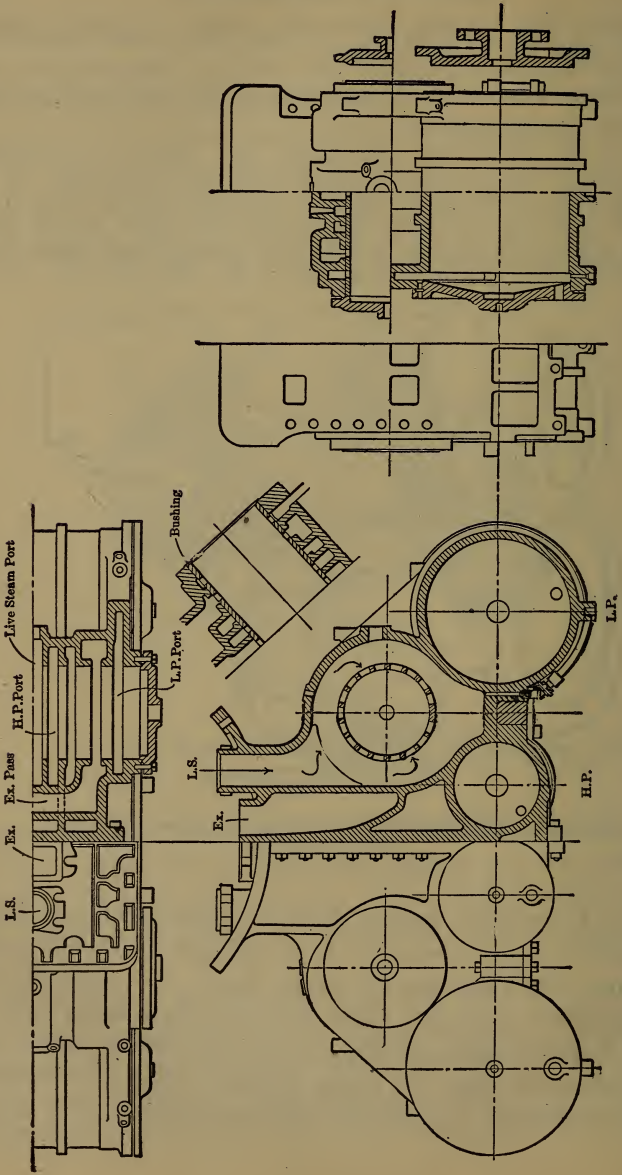
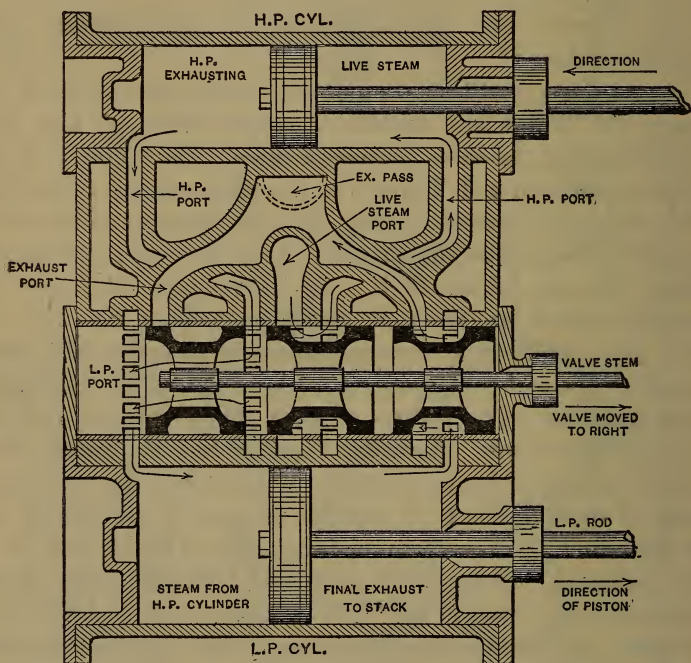

Fig. 362. Sections of Baldwin Balanced Compound.
Fig. 363. Cylinders and Valves of Balanced Compound.
A. In this (see Figs. 362 and 363) there are two H. P. between the frames and two L. P. outside them; all four axes parallel and in the same horizontal plane. The saddle is in two pieces, each with a H. P. and a L. P. cylinder and a valve chest. The valve is a balanced piston equal in diameter to the H. P. cylinder; the L. P. cylinder has 5.3 the diameter, that is, 2.78 times the area, of the H. P. All valves have "clearance" or negative inside lap, the L. P. having more than the H. P. In Fig. 363 (which is a "scheme" drawing and does not correspond to the real construction) we have the valve in full-port-open position. The pistons of each compound pair move in opposite directions. The valve chamber is seen to have seven ports; one at each end, to the L. P. cylinder, one next inside each of these to the L. P. exhaust passage in the saddle; one in the center for live steam, one each side of that for the H. P. end passages. The valve is composed of three spring-packed pistons, end to end, in line on a common stem, and travels in a bush; the ports are bridged to prevent the rings getting therein. In the cut the middle valve section *A* has opened the right-hand or back H. P. port to the central or supply port *B*, so that the H. P. piston is going to the right. The right-hand valve section *C* has opened the L. P. port *D* to the final exhaust port *E*, so that the exhaust of the right-hand end of the L. P. cylinder can escape into the stack. The left-hand valve section *F* has opened the left-hand L. P. port *G* to the L. P. cylinder (front end) and the middle valve section has opened the H. P. port to the valve center, letting the exhaust from the left-hand